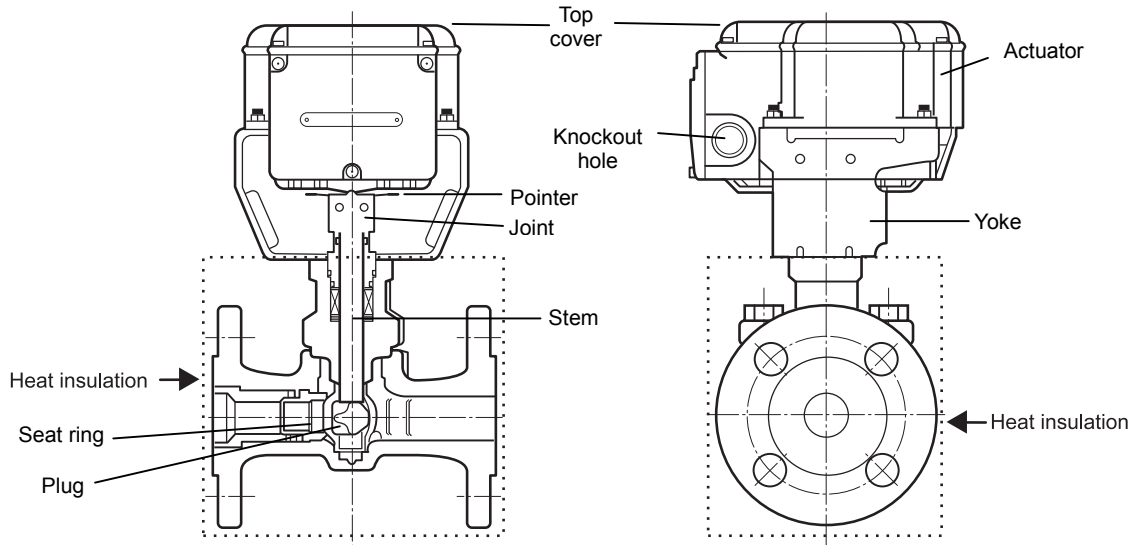

Figure 3. Parts identification
- 4) Do not apply heat insulation to the actuator and the yoke. Apply heat insulation only to the area boxed with dotted lines shown in Fig. 3 if necessary.